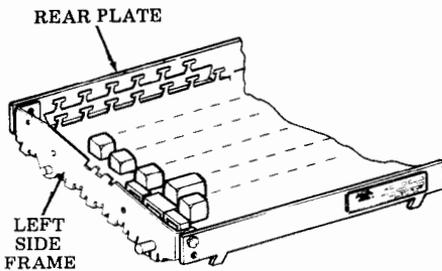

Fig. 27—Cable Removal
- (g) Remove rear plate and left side frame (Fig. 27).